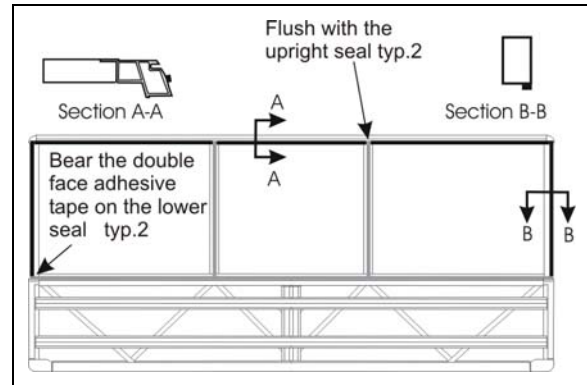
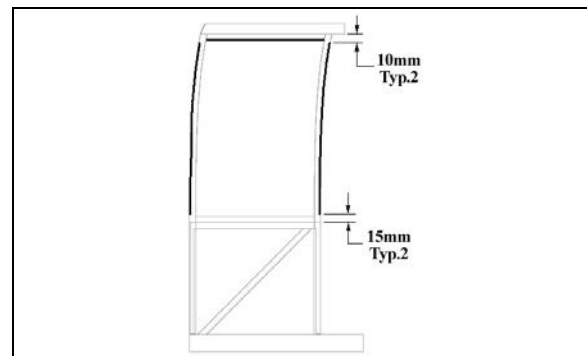

FIGURE 52 : FACE FIXED WINDOWS – 3/16 X 1/2 DOUBLE FACE ADHESIVE TAPE INSTALLATION
FIGURE 53 : SIDE FIXED WINDOW – ¼ X ½ DOUBLE FACE ADHESIVE TAPE INSTALLATION
3. Apply appropriate double face self adhesive tape on the slide-out structure (see FIGURE 52 for face fixed windows or FIGURE 53 for side fixed window).